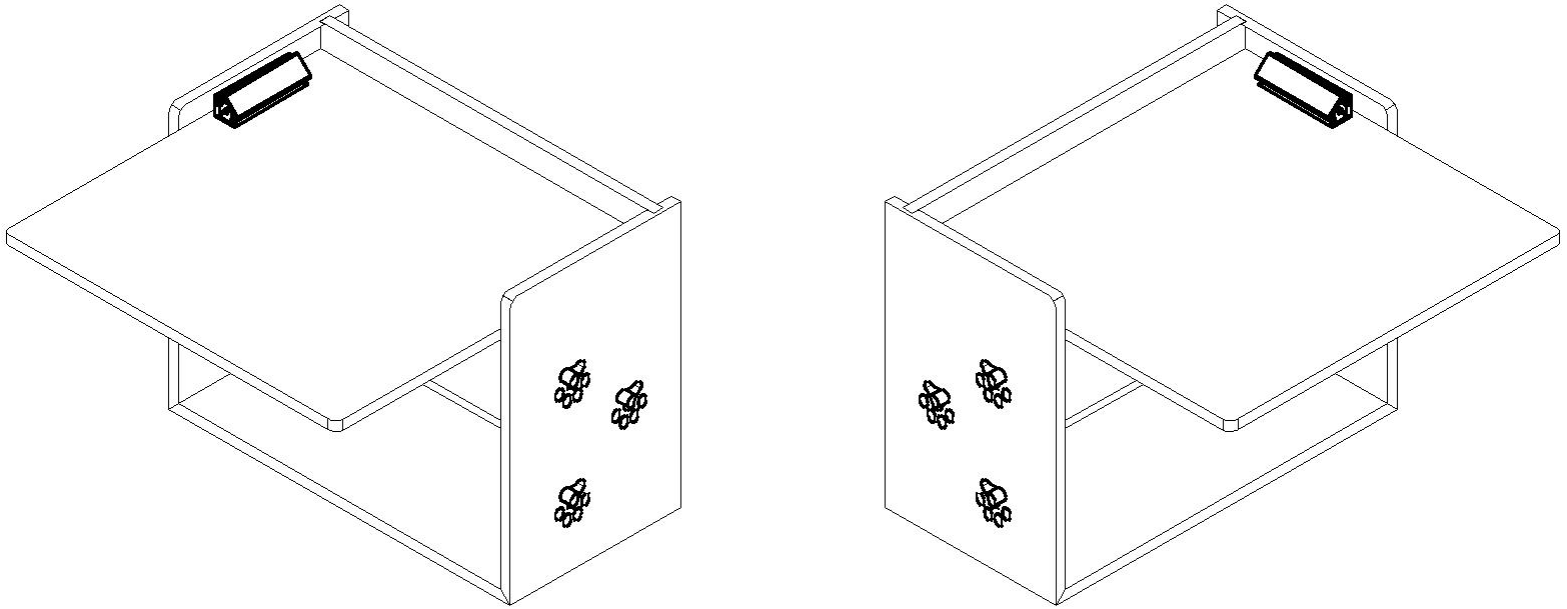

Figure A.4
4. While holding the back and base as shown in Figure A.3, fold the sides of the top panel upward. Once folded up, be sure that the hooks are interlocked. With hooks interlocked, slide in the key to lock the sides. (See Fig. A.4) If hooks do not interlock, remove screws and trying flipping hooks until properly aligned.